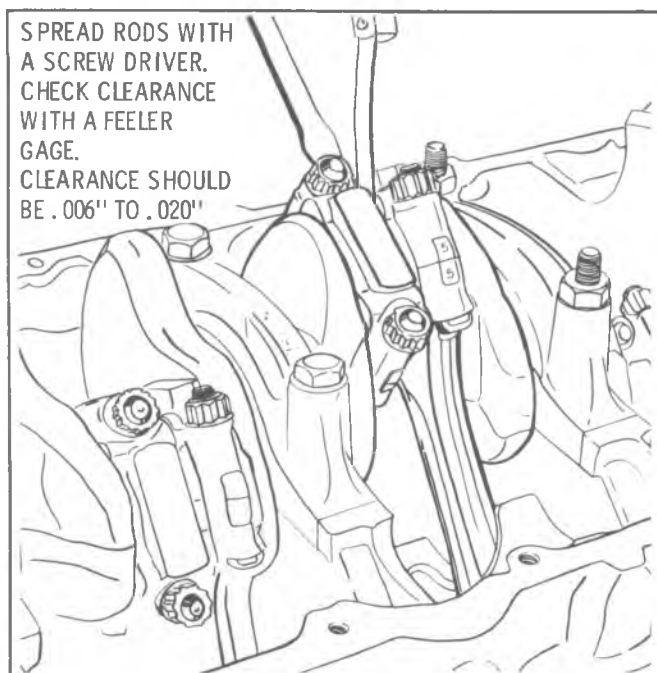

Fig. E-59—Connecting Rod Side Clearance
8. Measure the rod side clearance as shown in Fig. E-59. Clearance should be .006" to .020".